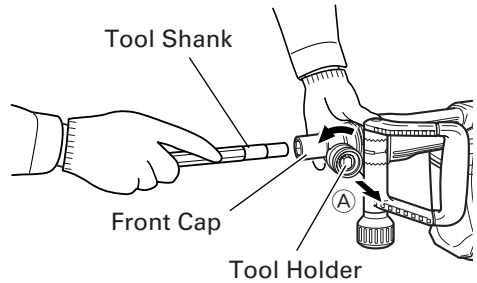

Fig. 2
- (1) Clean, then smear the tool shank with the grease (Optional accessory).
- (2) Pull the tool holder in the direction of arrow **A** and rotate it in the direction of arrow **B** (counterclockwise). Fully insert the tool shank into the hexagonal hole of the front cover. (Fig. 2)